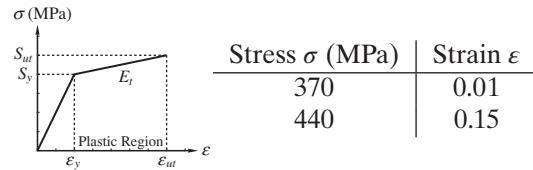

Figure P1.11 Stress-strain relation in the plastic region.
- 1-11.** The behavior of a material that exhibits bilinear kinematic hardening can be approximated with a linear relationship in the plastic region, as shown in Fig. P1.11. The stress, σ (MPa) and strain, ϵ (unitless) satisfy the linear equation $\sigma(\epsilon) = E_t \epsilon + \sigma_o$, where E_t is the strain hardening or tangent modulus and σ_o is the nominal stress, both measured in MPa.